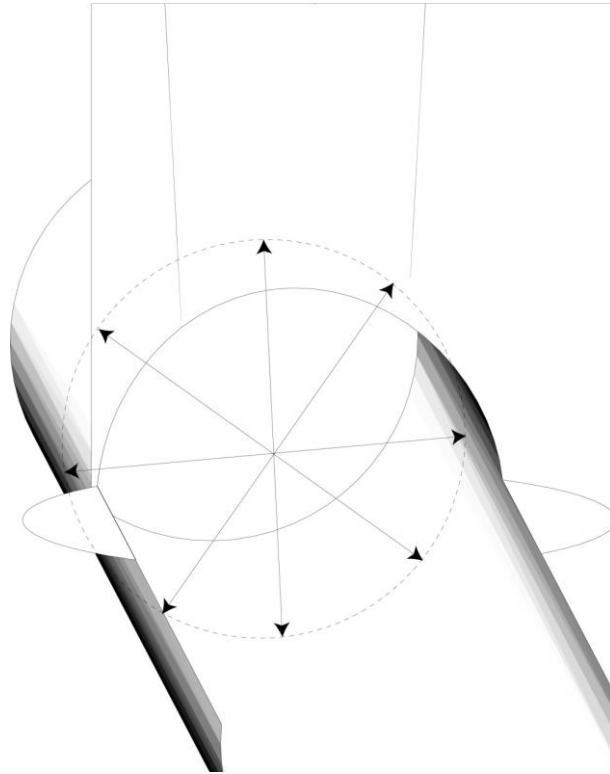

Figure 21: Pipe diameter measurement
1. Measure the inside pipe diameter (I.D.) at three locations (Figure 21). Be sure that the measurements are accurate.